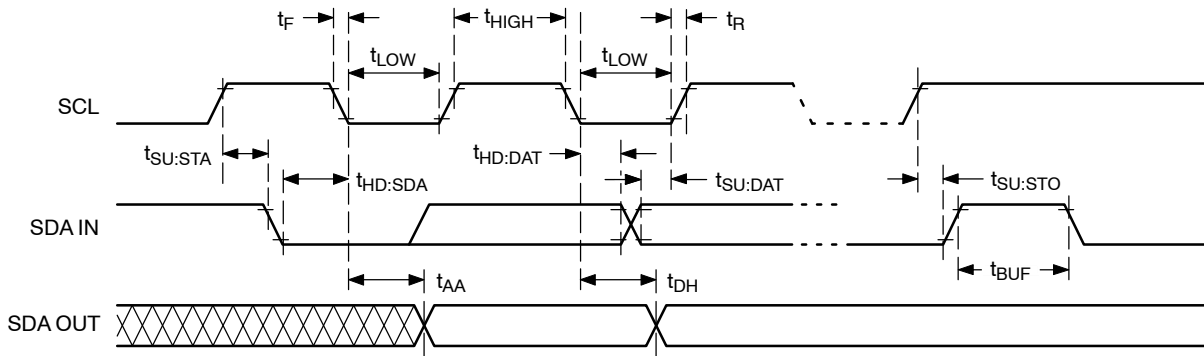

**Figure 3. Slave Address Bits**
The Master addresses a Slave by creating a START condition and then broadcasting an 8-bit Slave address. For the CAT24C32, the first four bits of the Slave address are set to 1010 (Ah); the next three bits, A2, A1 and A0, must match the logic state of the similarly named input pins. The R/W bit tells the Slave whether the Master intends to read (1) or write (0) data (Figure 3).